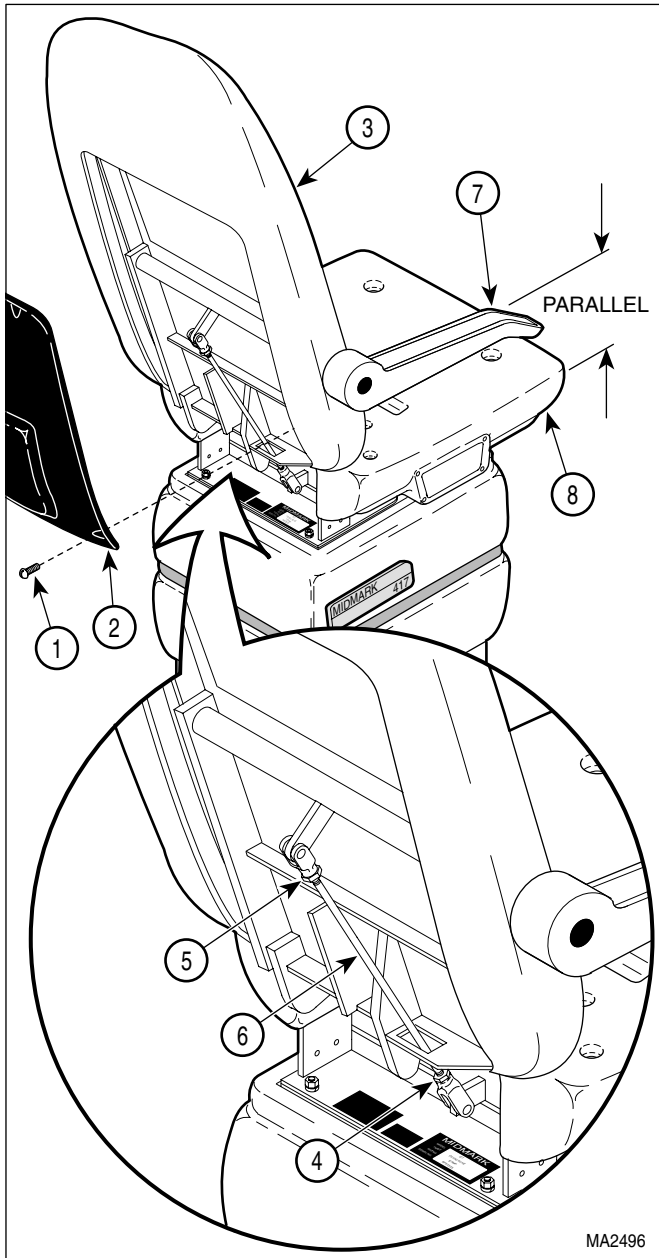

Figure 4-24. Arm Rest Adjustment
- (2) Unplug power cord from wall outlet.
- (3) Remove four screws (1, Figure 4-24) and back cover (2) from plastic back section (3).